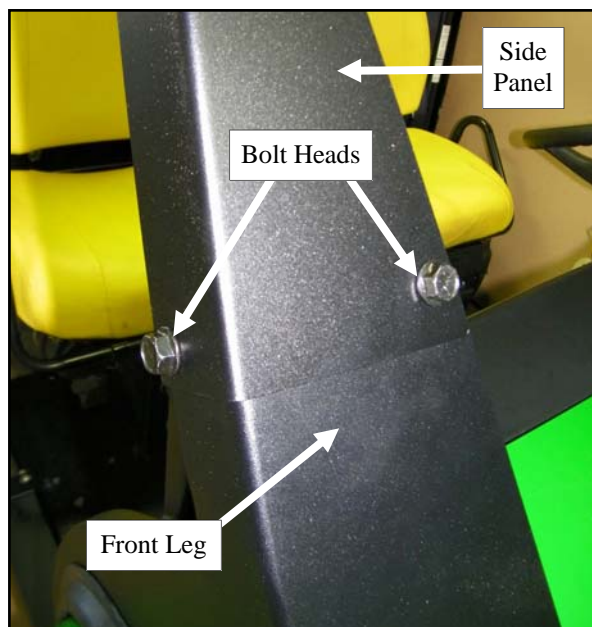

Fig. 5.1 (view of passenger's side)
**5.1** Align the front side panel to the front leg, as shown in figure 5.1. Fasten to the front leg using the hardware listed below. **Install finger tight at this time.**